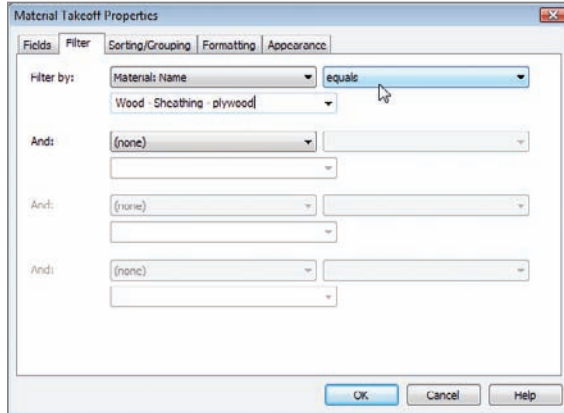

FIGURE 11.32 Filter based on material
8. In the field below Material: Name, select Wood - Sheathing - Plywood (see Figure 11.32).